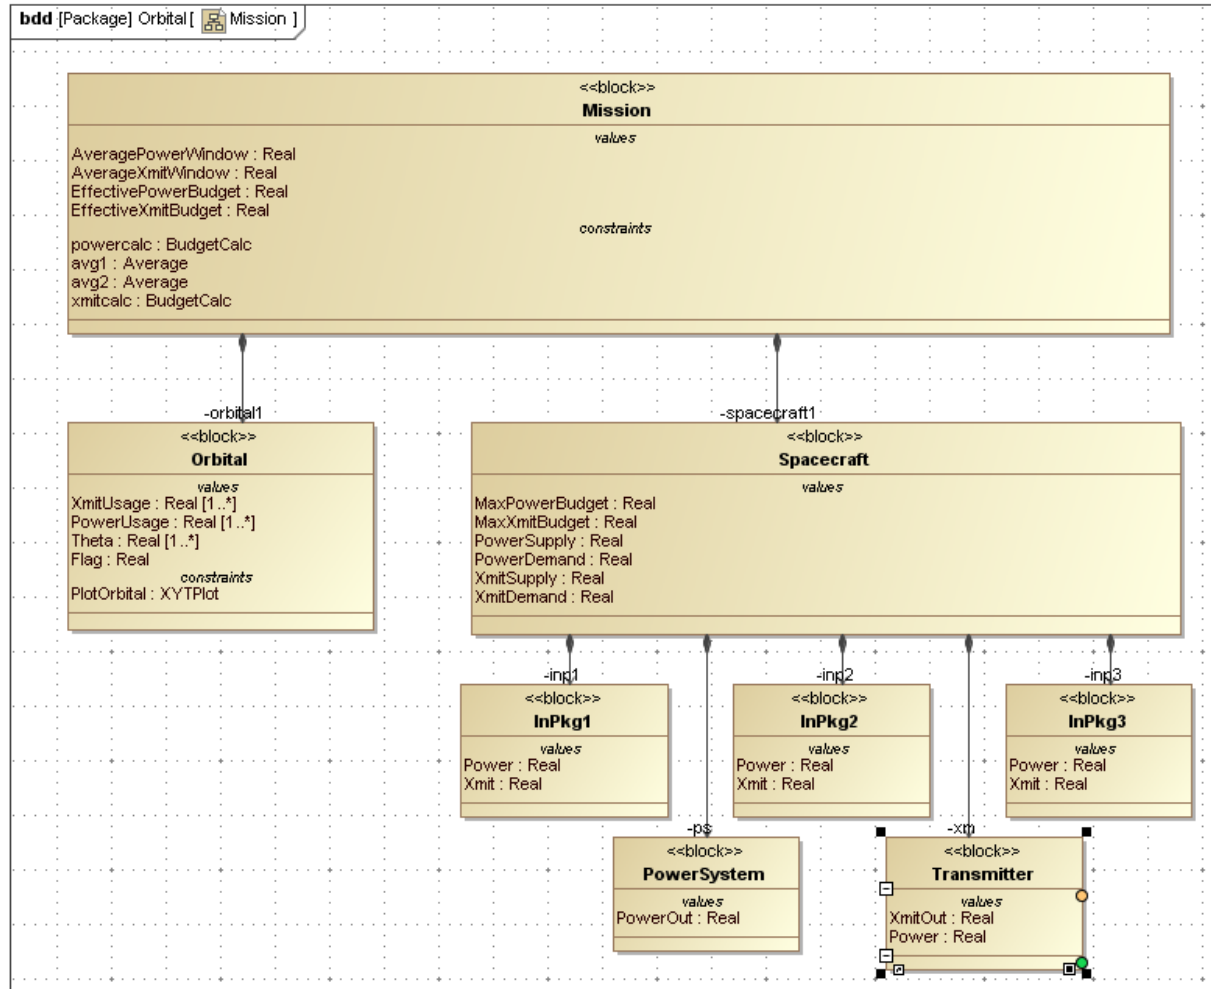

Figure 6.2 Block Definition Diagram for Orbital model
- b. Create a block definition diagram, Name = **Mission**, and drag the **Orbital** elements into the diagram. See Figure 6.2. Use Directed Composition connectors to link the blocks in the hierarchy shown.
- d. Referring to Figure 6.2, create value properties as shown in the **Spacecraft**, **InPkg1**, **InPkg2**, **InPkg3**, **Transmitter**, and **PowerSystem** blocks, all type Real.
- e. Inside the **Orbital** block, create the value properties as shown in Figure 6.2.